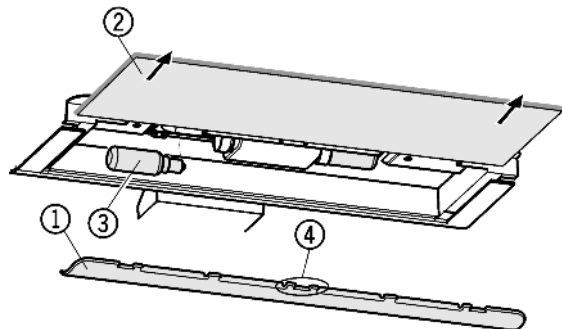

Fig. 14
- To remove the cover Fig. 14 (1): put your finger behind the cover and disengage it.
- Pull out the glass shelf Fig. 14 (2).
- Change the bulb Fig. 14 (3).
- Attach the cover again, engage it at the right and left and pay attention that the middle hook Fig. 14 (4) grips over the glass shelf.